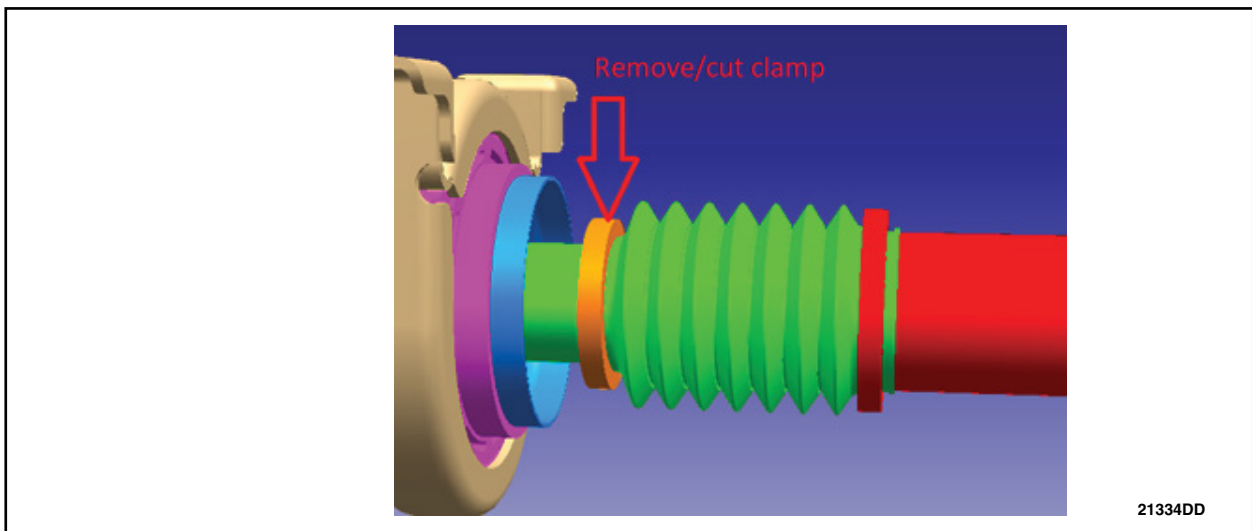

FIGURE 29
38. Remove/cut the boot clamp at the front of the slip joint. See Figure 29.